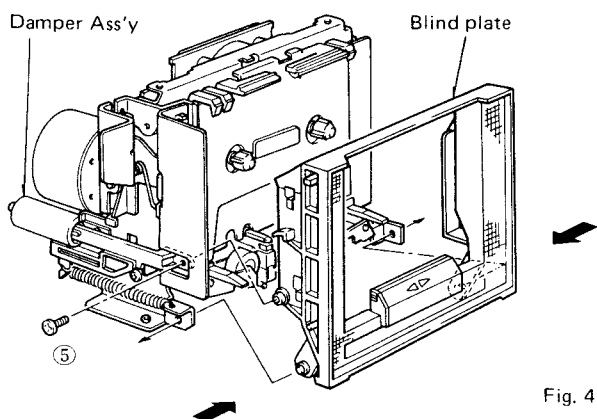

Fig. 4
- Remove screw ( ⑤ ) in fig. 4. (Remove after aligning the damper assembly arm with the notch in the blind plate.)